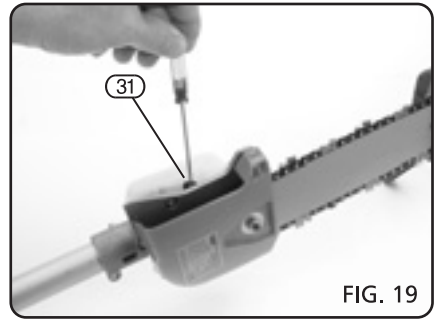

FIG. 19
11.1 ADJUSTING THE OIL FLOW (FIG.19)